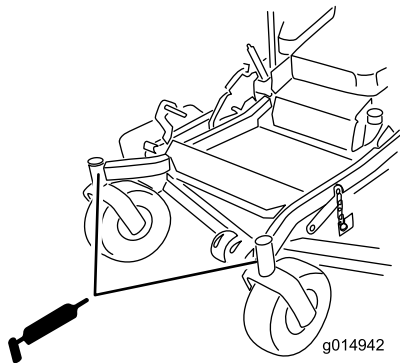

Figure 41
- Install the hex plug and dust cap (Figure 41).